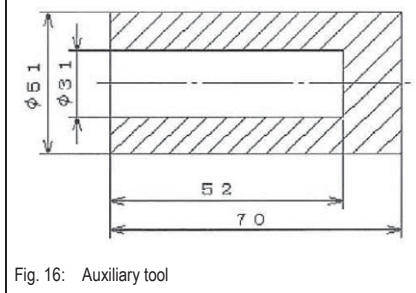

Fig. 16: Auxiliary tool
- ☞ Fit with auxiliary tool Fig. 16 while tapping lightly with a rubber hammer